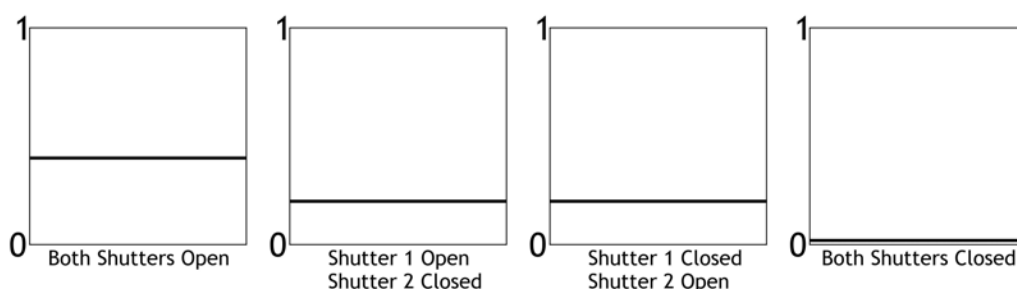

Figure 4.13.: Shutter related signal behavior in "Zero" scan mode (collinear interaction)
16. Close both shutters simultaneously. The signal should go down to zero (see Figure 4.13).